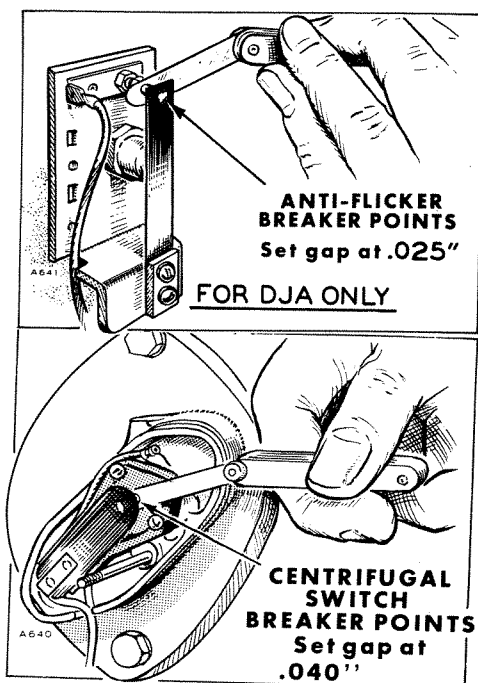

Fig. 18 Breaker Points
If a false start occurs with a plant having a starting motor, see that the centrifugal switch (fig. 18) closes with speed build-up.
- (1) The centrifugal switch (fig. 18) is wide open when engine is stopped. Loosen and move stationary contact to correct the gap.
- (2) One-cylinder non-battery-charging units have breaker points (fig. 18) in the anti-flicker circuit.